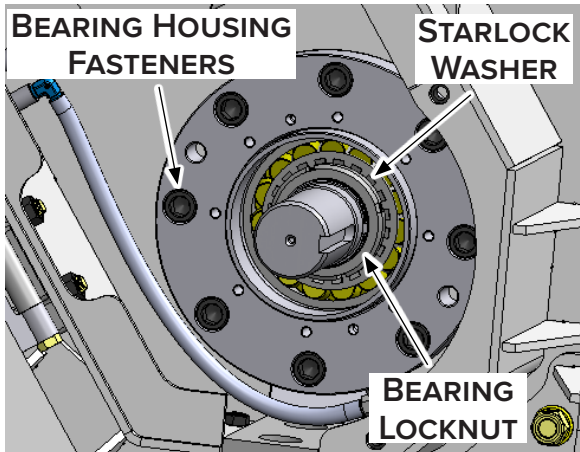

Figure 23
13. With a 14 mm Allen key, torque the bearing housing fasteners to 175 lbf·ft (236 N·m) with a medium strength thread locker. See Figure 23.